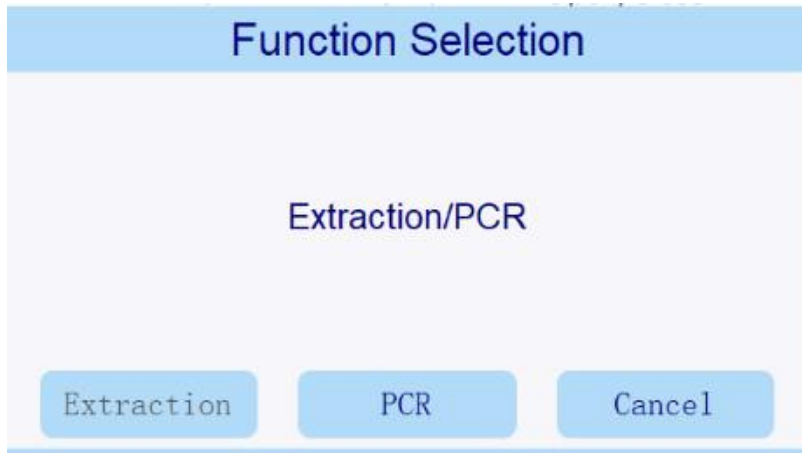

Figure 6-7 Function Select
- If the user needs to run the PCR process, after scanning, the pop-up interface will remind the user to select "Extraction" and "PCR", as shown in figure 6-7.